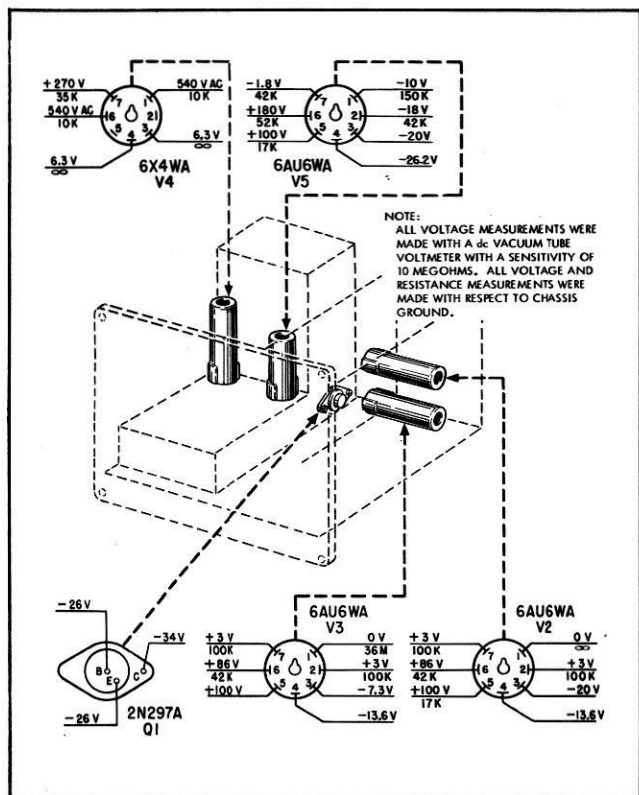
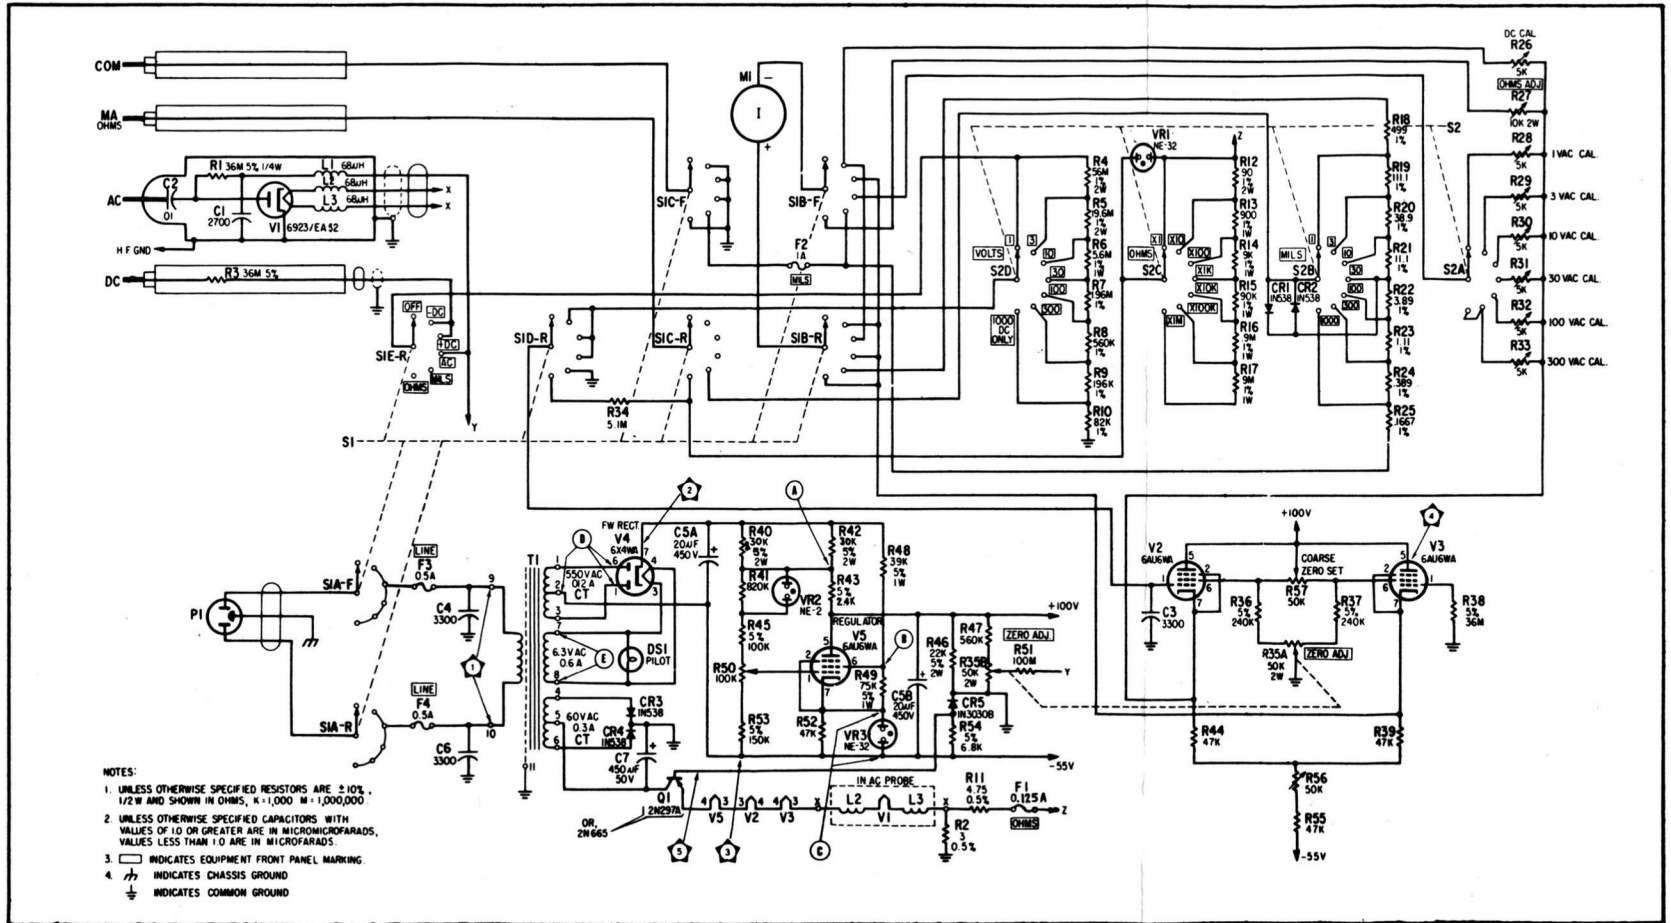

Figure 5-3. Voltage and Resistance Measurements and Tube Location Diagram
Figure 5-9. Electronic Multimeter AN/USM-116, Overall Schematic
(3) If the ohmmeter or milliammeter functions do not operate properly, check fuses F2 and F1 (refer to paragraph 3-5b(2) for fuse replacement procedures).
(4) Tubes that are thought to be faulty should be tested. Tube substitution - replacing suspected faulty tubes with known good ones - is a method of remedying many troubles. Tapping suspected tubes with the finger or jarring the unit may disclose intermittent trouble.
b. ELECTRICAL INSPECTION. - If the visual inspection fails to locate the fault, an electrical inspection must be made. The electrode voltage of all tubes should be checked at the tube sockets, and the measured values compared with those given in figure 5-3. The operating voltages of all control circuits should also be determined, and then compared with those shown in figure 5-9 (see test points \diamond \diamond \diamond and \diamond \diamond). Voltages differing greatly from specified values indicate a fault in the circuit under test. When incorrect voltages are found, resistance checks should be made in order to determine the cause. The resistance values are also given on figure 5-3.
(4) All components within multimeter are now accessible for repair or replacement purposes.
c. FUNCTIONAL SECTION TROUBLE-SHOOTING CHART. - The functional trouble-shooting chart (refer to table 5-2) describes the checks that should be made to isolate the particular part at fault. Follow the instructions given in the table. Note that the second column of the table lists the test point symbols shown in figure 5-9. Refer to figure 5-3 for tube pin voltage and resistance measurements and for the tube location diagram.
Always double-check installation of polarized components for proper connections as shown in figure 5-9 before applying power to the multimeter.